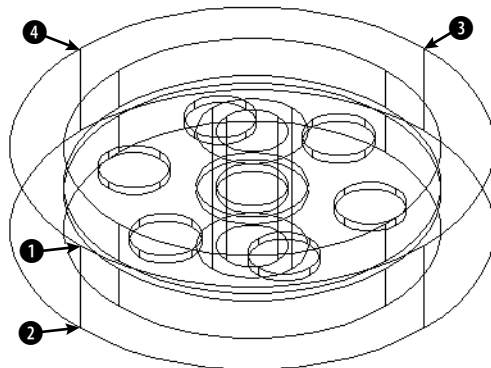

Figure 24-22: The 3D model for slicing.
1. If you have ab24-03.dwg open from the previous exercise, use this drawing. Use the REGEN command to remove the hidden view. If you don't have it open, open it from your AutoCAD Bible folder or from the Results folder of the CD-ROM. Make sure that OSNAP is on. Set running object snaps for endpoint, midpoint, center, and quadrant. Make sure that you have both the Solids and the Solids Editing toolbars open. The drawing is shown in Figure 24-22.
<3points>: *Pick the quadrant at 1 in Figure 24-22.*